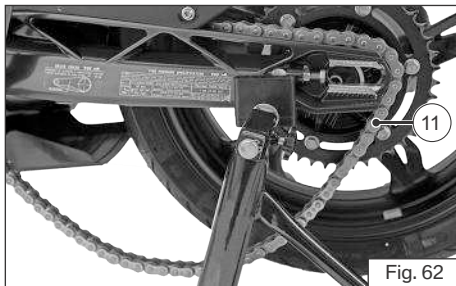

Fig. 62
- ♦ Roll the rear wheel forward as far as possible and disengage the chain (11) from the sprocket (ref. Fig. 62).